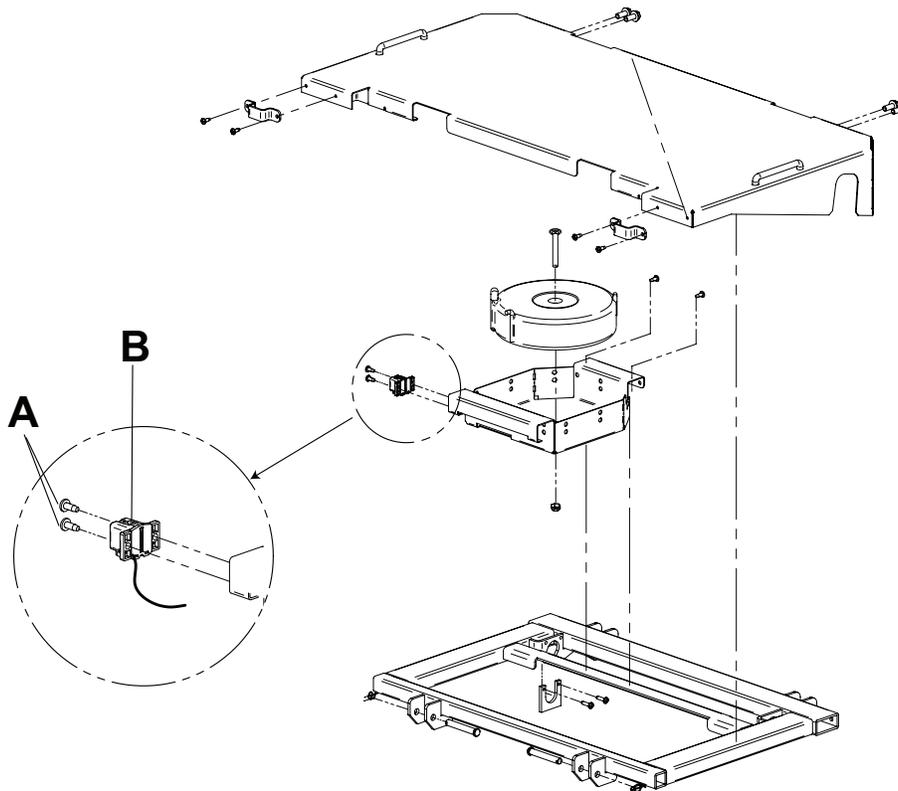

Figure 66 – Gatch angle sensor
5. Working from the bottom left side of the litter, under the Gatch section, use a #2 Phillips short screwdriver to remove the two screws (A) that secure the Gatch angle sensor (B) to the bottom of the Gatch frame (Figure 66). Save the screws.